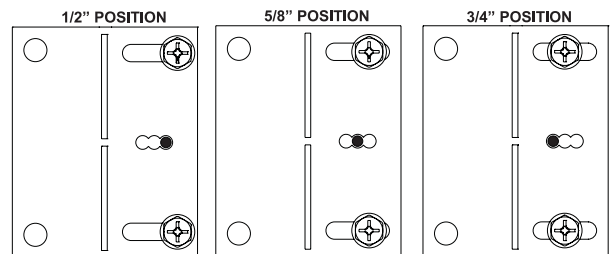

Figure 33
5. Measure from face of fireplace to face of drywall strip to determine final depth and adjust nailing flanges as shown in **Figure 33**.